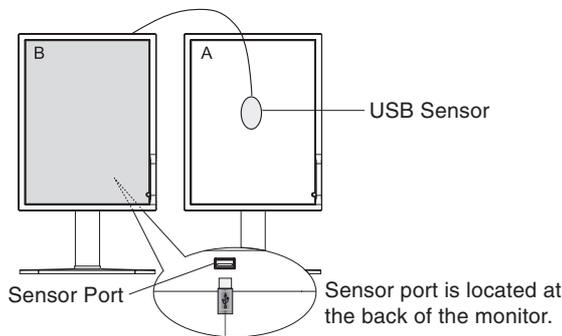

Figure 7
1. To show the CALIBRATION menu, plug-in the USB sensor to the sensor port (**Figure 7**) or select the CALIBRATION in the advanced menu (page 20).
4. The procedure will ask for the USB sensor to be placed on the center of the Display A panel (**Figure 10**). Tilt the display panel approximately 5° backward and place the USB sensor in the center of the display panel (**Figure 7**).